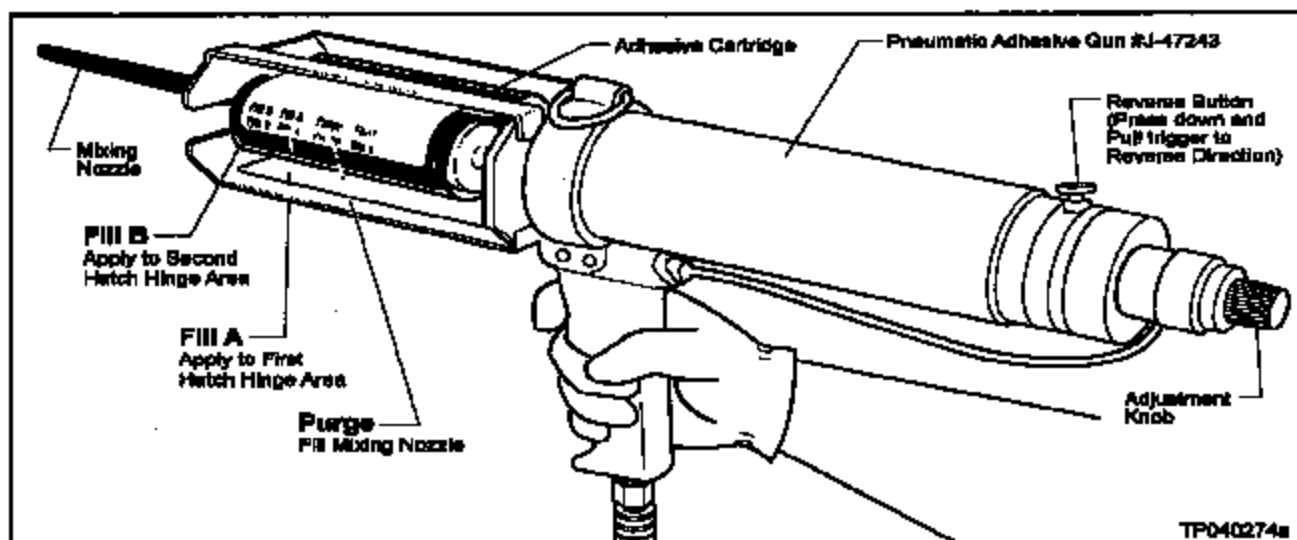

Figure A6
- c. Load the Adhesive Cartridge (with Mixing Nozzle) into the Pneumatic Adhesive Gun. See Figure A6.
- f. Slowly pull the trigger on the Adhesive Gun until the "Purge" section of the Adhesive Cartridge is pushed through the Mixing Nozzle (see Figure A6) and on to a piece of cardboard to make sure the mixture is correct (dark pink color).